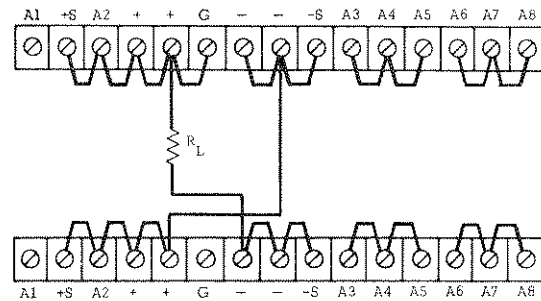

Figure 3-8. Normal Series Connections
**3-36 Normal Series Connections (Figure 3-8).**